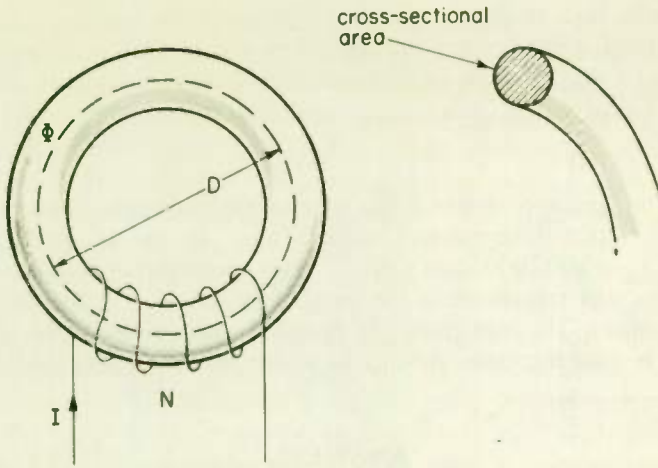

Fig. 13
2. Figure 13 shows a coil wound around a toroidal (doughnut-shaped)